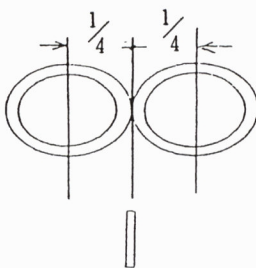
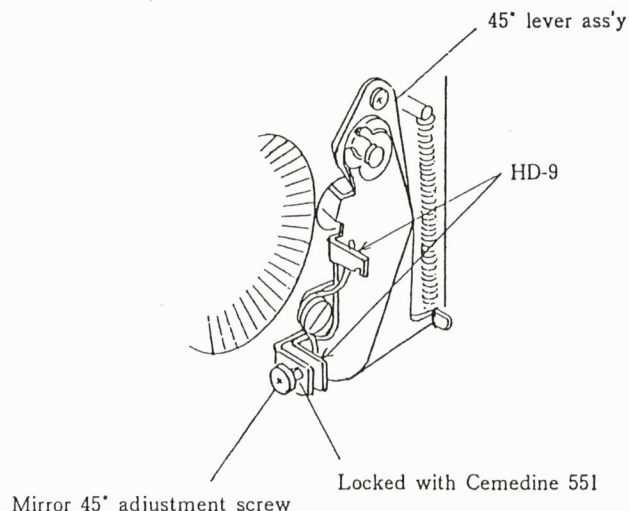

Fig. 75
Fig. 76
- ① When the focusing ring is turned and correct focus cannot be obtained at infinity, the finder-back is too long. In this case reduce (lower) the position of the focusing screen.
- ② When correct focus can be obtained when the focusing ring is turned to a position before infinity, the finder-back is too short. In this case, increase (raise) the position of the focusing screen.
- When the finder focus error is within the " $\pm 1/4$ " range (Fig. 75) adjust by turning the 45° mirror adjustment screw as shown in (Fig. 76). This adjustment can be performed from right side of the Mirror Box by removing the Front Cover. The screws should not be turned more than $3/4$ of a revolution.